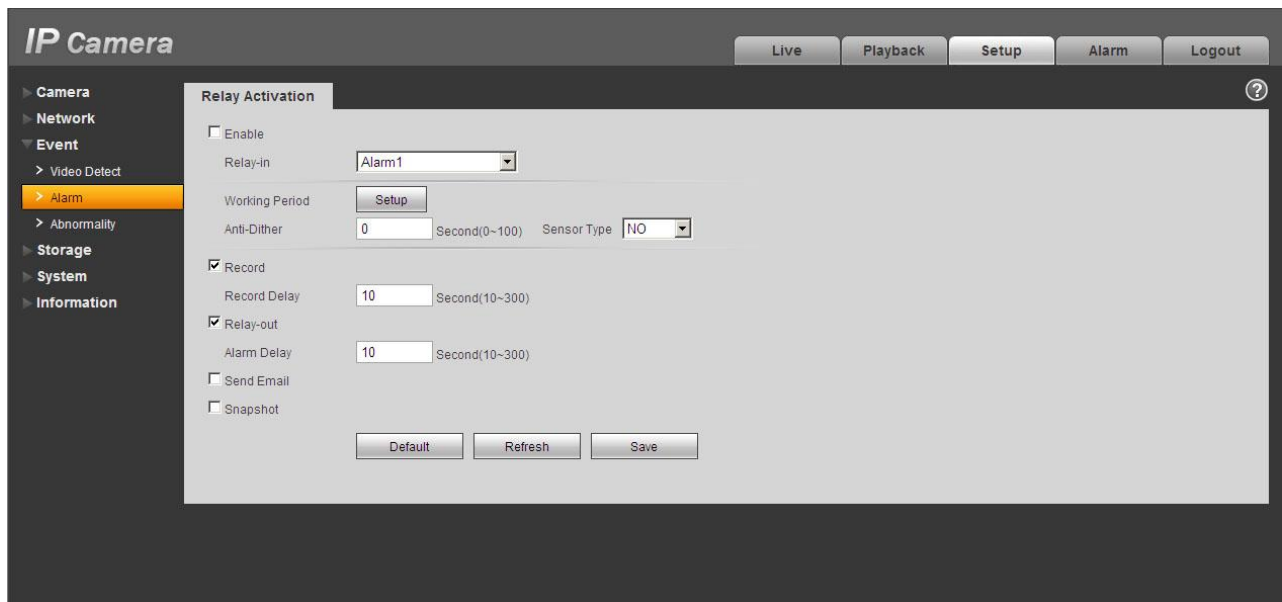

Figure 2-6 Alarm
The alarm interface is shown as in Figure 2-6. Please follow the steps listed below for local alarm input and output connection.
- 3) Open the Web; go to the Figure 2-6. Please set the alarm input 01 port for the first channel of the I/O cable (No.4 pin). Then you can select the corresponding type (NO/NC.)